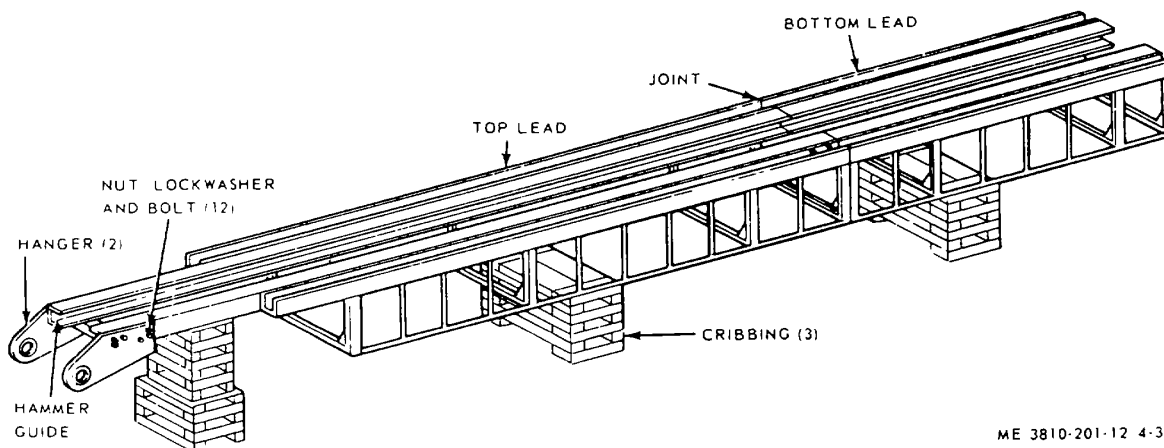

Figure 4-31. Pile leads, cribbed for removal or installation.
a. *Removal.* Remove six nuts, lockwashers, and bolts from each hanger (fig. 4-31), then remove hangers from pile lead.
(1) Clean all parts in an approved cleaning solvent and dry thoroughly.
(2) Visually inspect hangers for cracks, bends, or breaks, and mounting hardware for stripped threads, or other defects.
(3) Repair by straightening bends, welding cracks or breaks, or replacement of defective part.
(1) Remove collar, cap, and hammer (para 4-36).
(2) Remove catwalk and adapters (para 0 4-37).
(3) Position cribbing for foot of pile lead (fig. 4-31) then lower boom (para 2-12b) and travel crane-shovel unit (para 2-12c) backward simultaneously, until boom point is just above the horizontal, then build cribbing to support top and center of pile leads (fig. 4-31).